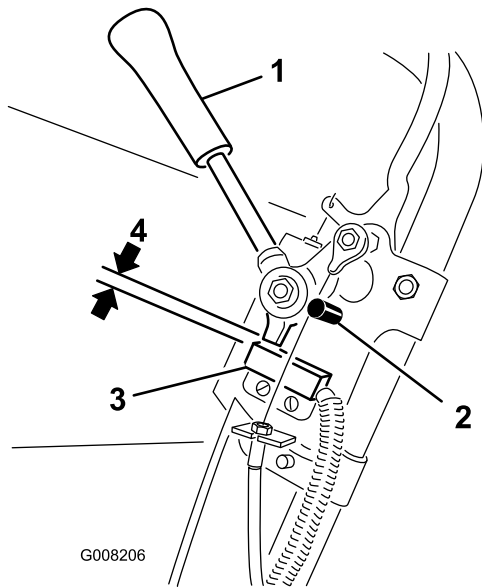

Figure 28
1. Make sure the engine is off and the traction lever is disengaged and resting against the neutral stop (Figure 28).
2. Loosen the interlock switch mounting fasteners (Figure 28).
3. Place a .032" thick shim between the traction lever and the interlock switch (Figure 28).